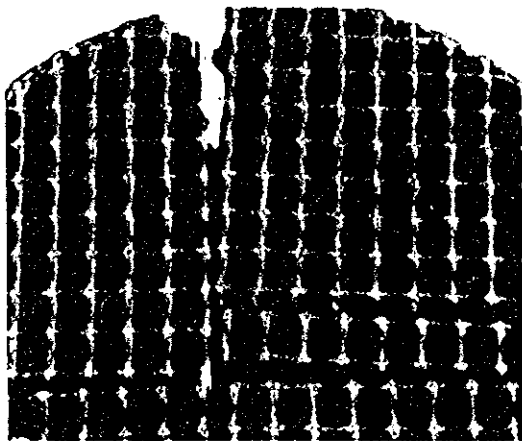

Figure 23
•**Cracking (Figure 23)** Cracks can develop from either thermal stress or mechanical stress. As long as large pieces do not fall out of the combustor, it can still function with a few cracks. Mechanical stress may indicate that some part of the surrounding housing has warped and needs to be replaced.